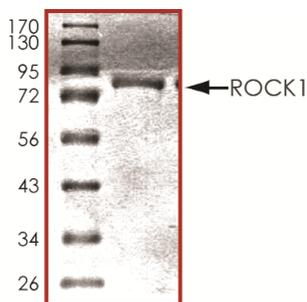

Figure 1: The approximate molecular weight is 85 kDa and the purity is > 95%.
- Molecular Mass** ♦ The approximate molecular weight is 85 kDa (see Figure 1 below).
- Purity** ♦ The purity was determined to be > 95% by densitometry (see Figure 1 below).